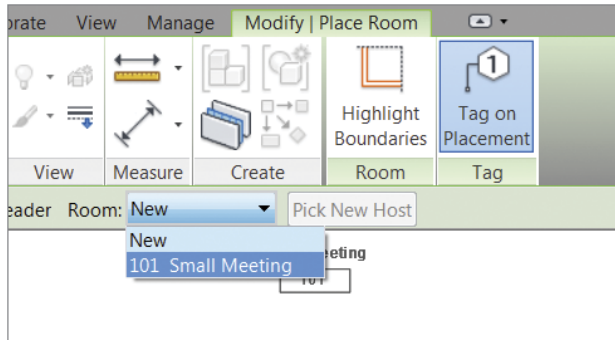

FIGURE 8.11 Place rooms with unplaced room definitions.
6. To replace the room you just deleted, return to the Level 1 floor plan, and start the Room command again. This time, open the Room drop-down on the Options Bar. You see any unplaced rooms available in your project (Figure 8.11).